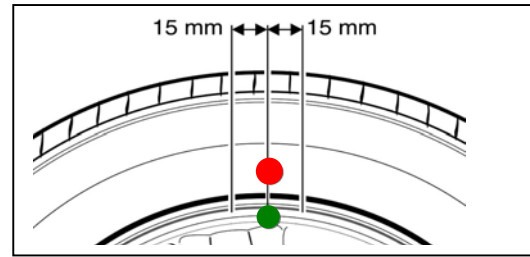

Fig. C-1
2. The alignment of the marking must be within +/- 15 mm center to center (Fig. C-1)